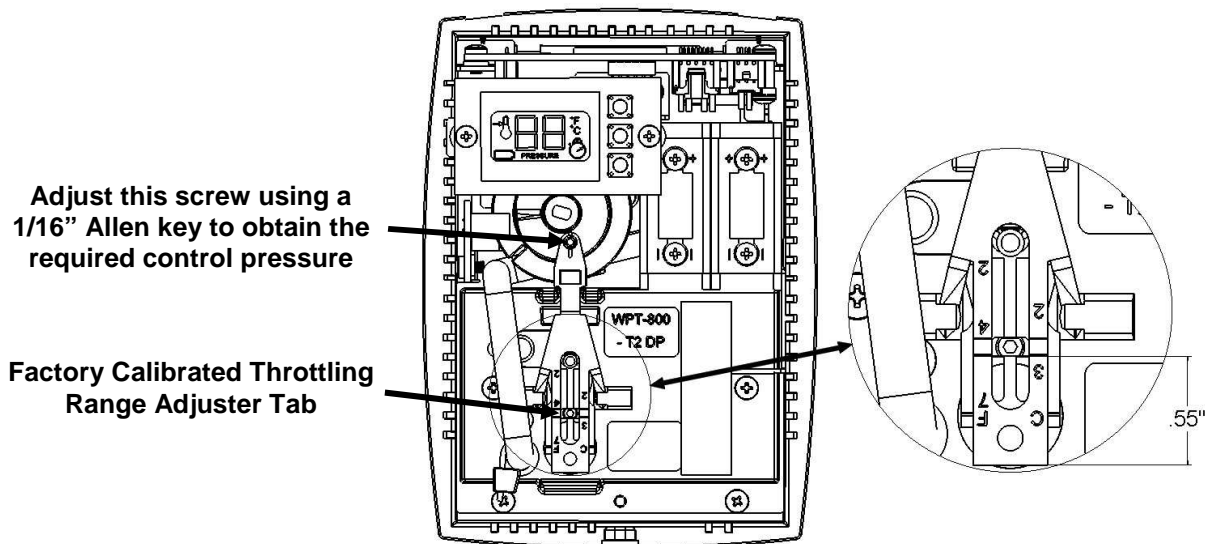

Figure 14. WPT-DB Calibration
NOTE: The black throttling range adjuster has been factory set to the location marked on the lever as shown in Figure 14. The factory setting provides a Throttling Range (TR) of 4°F. This TR adjuster **MUST NOT BE MOVED** in order to ensure proper operation and accuracy of the WPT-DB.
3. Use a 1/16" hex Allen wrench and very carefully turn the calibration set screw on the thermostat lever, shown in Figure 14, until the branch pressure is equal to the desired control point. Use extreme caution not to allow the lever to rotate sideways while adjusting the setscrew. Damage to the bi-metallic spring can result if the end of the lever is allowed to move left or right by more than 1/16".